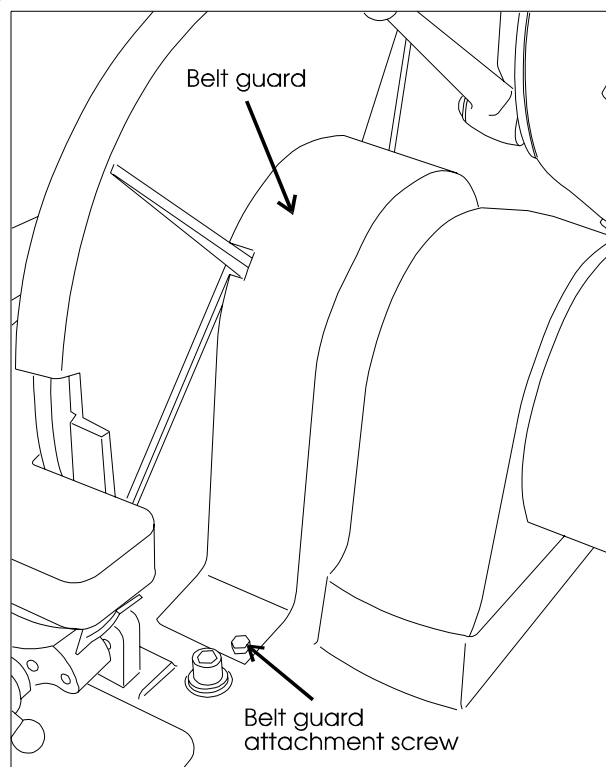

Figure 9: Removing belt guard
2. Remove the belt guard (Figure 9) and disc table